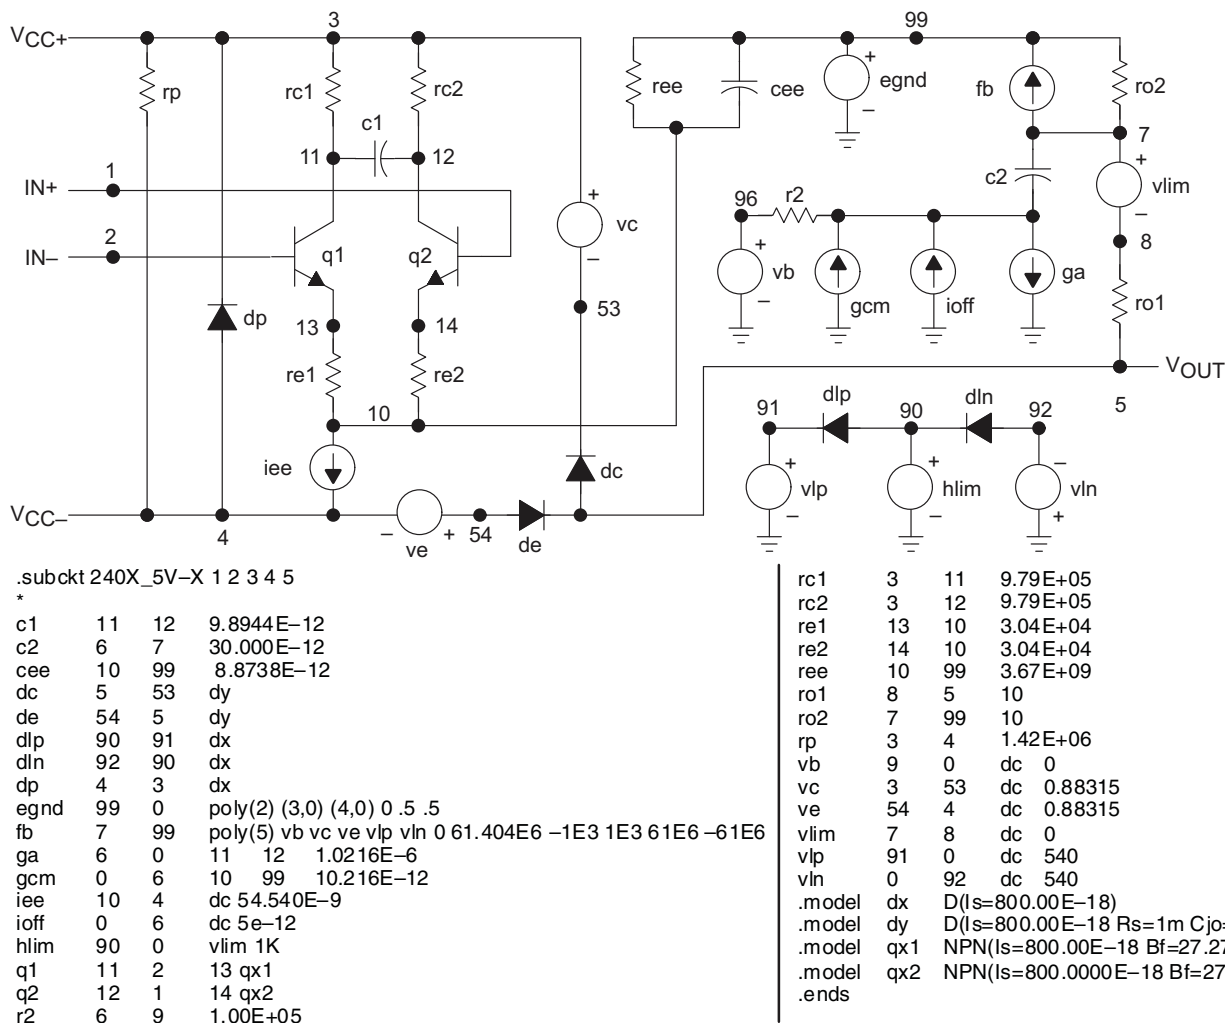

Figure 41. Boyle Macromodels and Subcircuit
Macromodel information provided was derived using Microsim PartsE Release 8, the model generation software used with Microsim PSpiceE. The Boyle macromodel(1) and subcircuit in Figure 41 are generated using the TLV240x-Q1 typical electrical and operating characteristics at  $T_A = 25^\circ\text{C}$ . Using this information, output simulations of the following key parameters can be generated to a tolerance of 20% (in most cases):